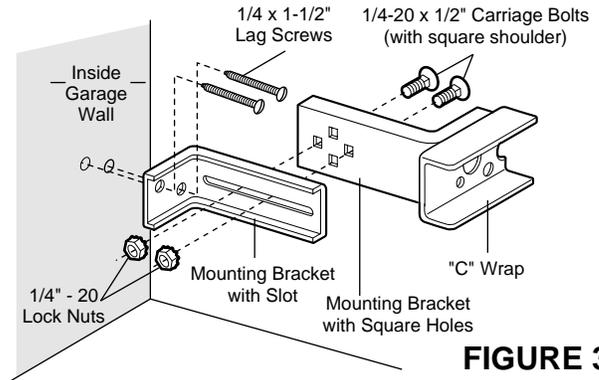

FIGURE 3
- Connect each assembly to a slotted bracket, using the hardware shown in Fig. 3. **Note alignment of brackets for left and right sides of the door.**
- Use bracket mounting holes as a template to locate and drill (2) 3/16" diameter pilot holes on both sides of the garage door, 4"-6" above the floor (but not exceeding 6"). See Warning on page 1.
- Attach bracket assemblies with 1/4"x1-1/2" lag screws as shown in Fig. 3.